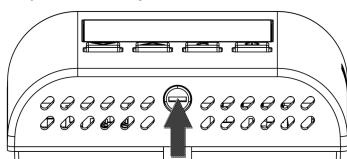

Fig. 4
- 2** Push, with the help of a screwdriver, the plastic tooth located on the slot on the bottom side, then slightly lift up the plastic cover (Fig. 4).